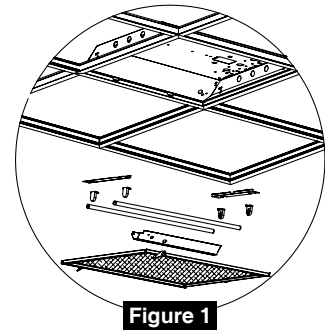

Figure 1
1. Prior to installation, disconnect all incoming power to fixture. Remove existing hardware (lens/lens frame, parabolic louver, reflectors/ballast covers, brackets, lamps/lamp holders). Leave supply and grounding leads. (Fig.1)